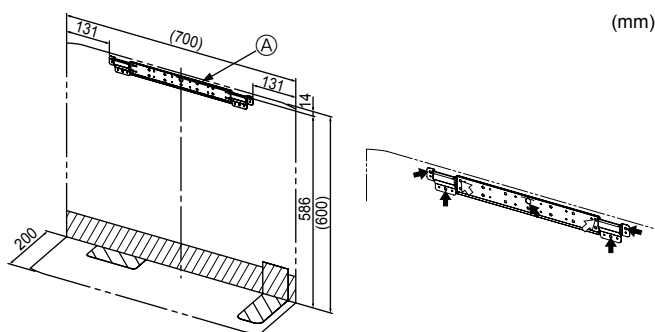

Fig. 3-1
- Install the bracket firmly to the wall structure (stud, etc.). (Fig. 3-1)
① Indoor unit mounting bracket